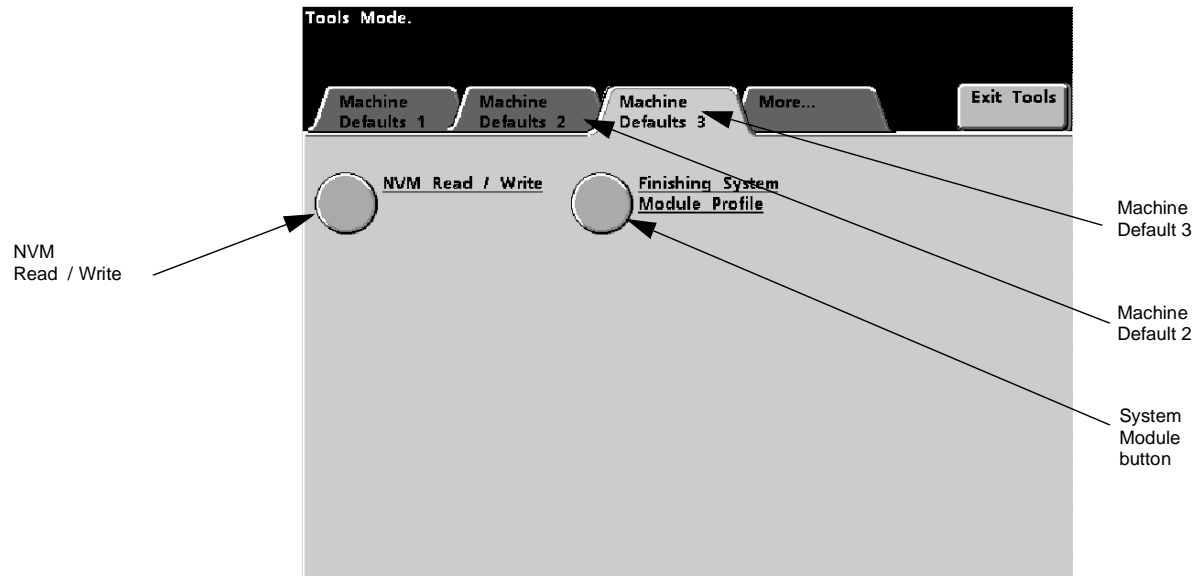

Figure 6-54 The Tools Mode Window
The **Tools Mode** Window will display, as shown in Figure 6-54.
Select **Machine Defaults 2** tab if your DocuColor 6060 does not have a scanner, as shown in Figure 6-54.
4. If you would like to review the currently loaded profiles, click the **Finishing System Module Profile** button, as shown in Figure 6-54.
5. Click the **NVM Read / Write option**, as shown in Figure 6-54.